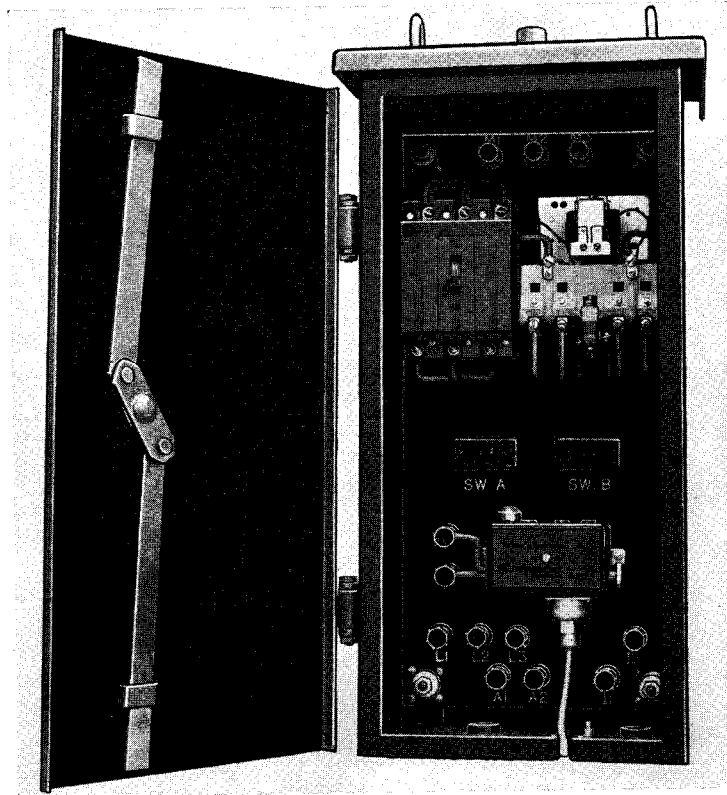

FIG. 7—TYPE B CONTROL PANEL
**Type B**—for large power transformers where more than six single phase or where three phase fans are connected to a panel. Refer to Figure 7. The de-ion AB breaker, type DN contactor, control thermostat, flip-on switches and terminals are mounted on the panel.